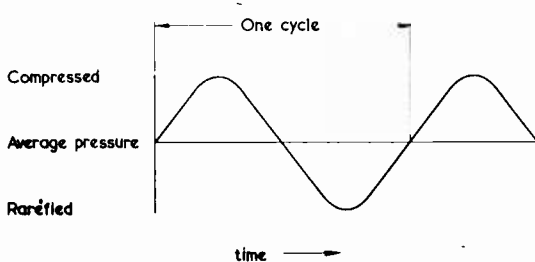

Fig. 1. Graph showing air pressure with sine wave drive to the loudspeaker
**S**OUND IS PROPAGATED BY WAVES WHICH CONSIST of alternate compressions and rarefactions. If a sine wave is used to drive a loudspeaker, the pressure of the air at any instant is shown in Fig. 1. The pressure at any point will of course vary with time, and a microphone (or a loudspeaker connected to work as a microphone) will respond to the changes in pressure by giving an output voltage which is a replica of the voltage supplied to the first loudspeaker, except that (assuming equal impedances) the magnitude of the second voltage will be less than that of the first. This is due to attenuation in the air, inefficiency in the loudspeaker and microphone (or second loudspeaker), and to the fact that not all of the transmitted sound is picked up at the receiving end. There will also usually be a phase difference between the two voltages, due to the time taken for the sound to travel.